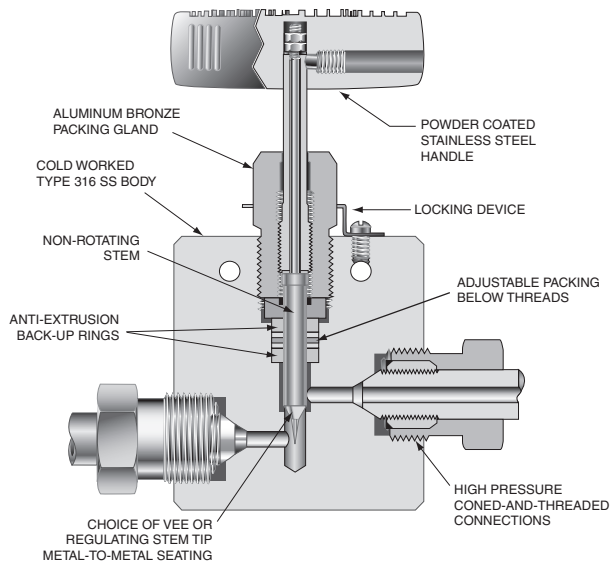
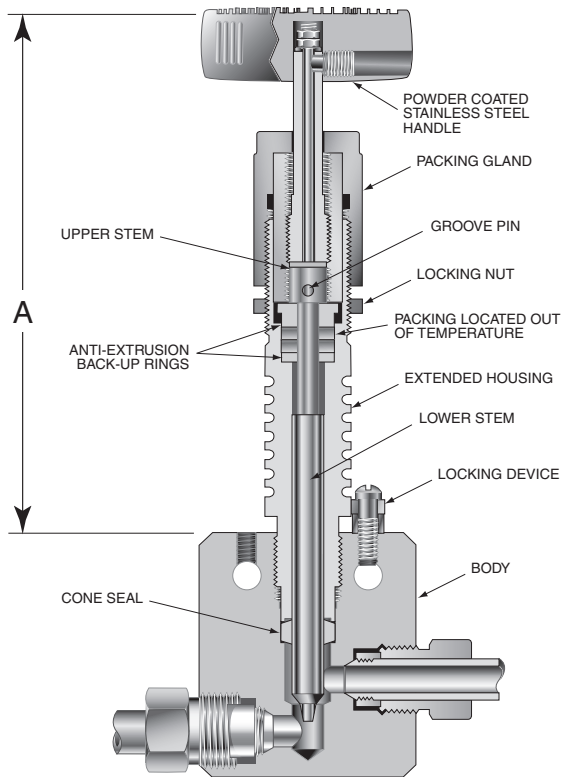
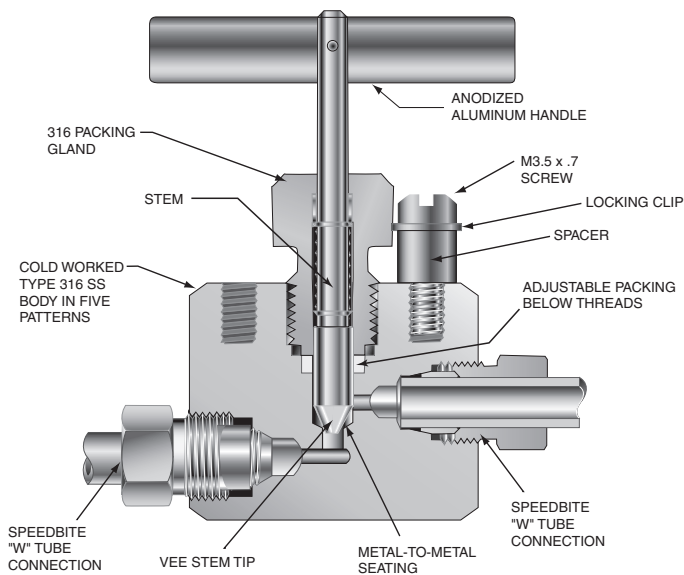

Figure 2: Typical Valve Assembly
Figure 4: Extended Housing Valve Assembly with Two Piece Pinned Non-Rotating Stem
Figure 5: One Piece Rotating Stem
5. Autoclave Engineers manual valves have three different type of stems; one piece non-rotating (figure 2), two piece pinned non-rotating (figure 4) and rotating (figure 5). Follow steps 6-9 for one piece non-rotating stems, steps 10-11 for two piece pinned non-rotating stems and step 12 for rotating stems.